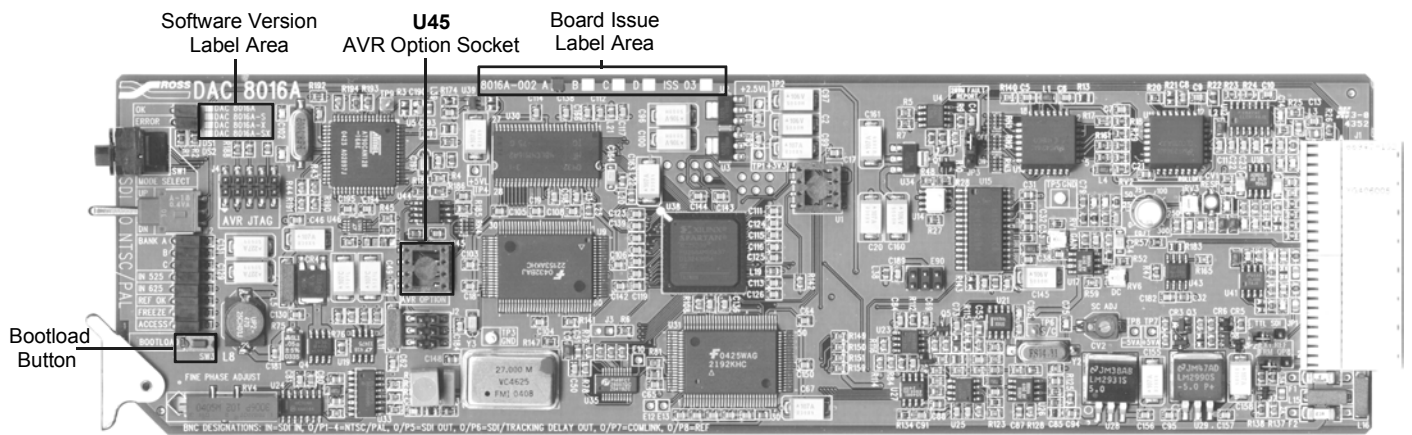

Figure 12. DAC-8016A Upgrade Socket and Label Locations
Figure 12 below indicates the user interface components required during these procedures.
2. With the card out of the frame, refer to Figure 12 and the card labeling to locate the AVR Option socket (**U45**).
3. Refer to Figure 12 and the card labeling to locate the AVR Option socket (**U45**).
1. With the card out of the frame, refer to Figure 12 and the card labeling to locate the AVR Option socket (**U45**).